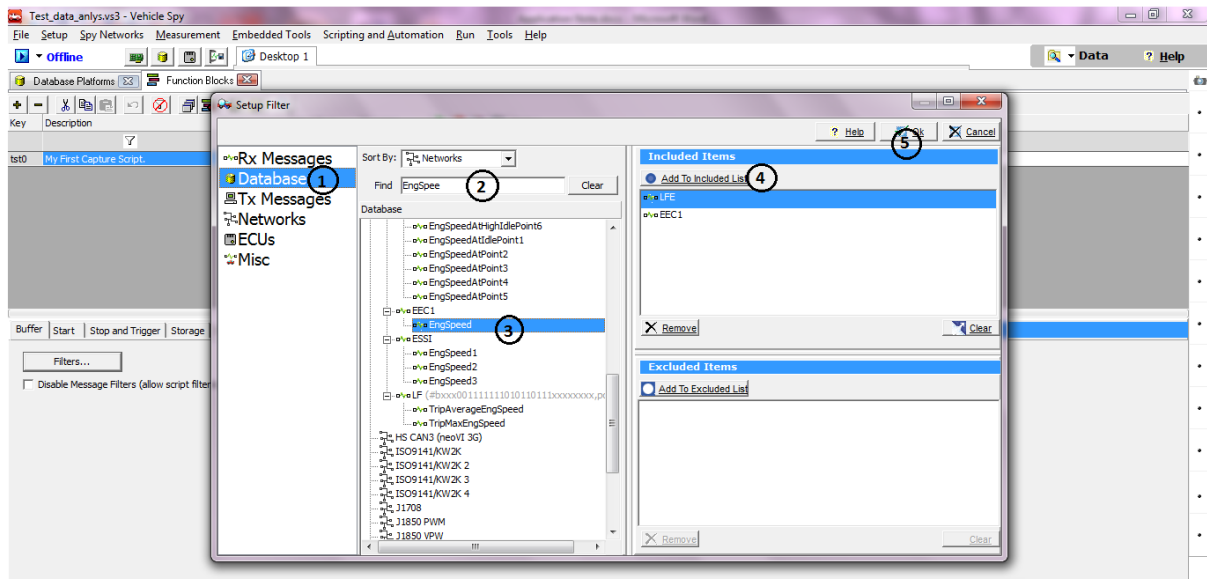

Figure 5: Setting Filter for Capture Function Block.
Next, you need to setup your filter. The first step is to select your data source. Data sources are listed just below the "Name of Filter" heading they include: Rx Messages, Database, Tx Messages, Networks, ECUs, and Misc. When you select a data source from the list, available items (messages, signals, etc.) will be shown in the central window in a tree. To add an item to your filter, simply select it from the tree and press the "Add to Included List" (4) button or the "Add to Excluded List" (5) button. A filter can contain both included and excluded items. (Double clicking on an item in the tree will automatically add it to the Included Items List.) All items added to your filter will appear in either the Included Items or Excluded Items list. Refer Figure.5